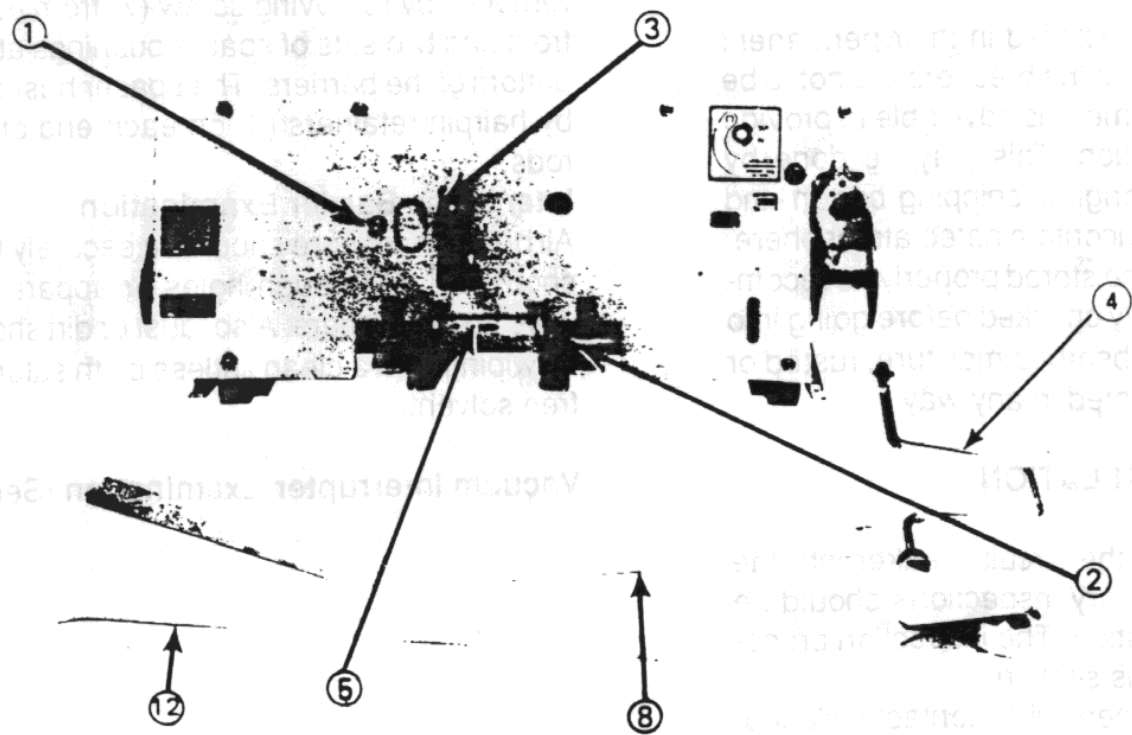

Fig. 3 — Front Circuit Breaker Panel & Accessories
Installing Circuit Breaker into Compartment (See Figs. 3&4)
Turn motor disconnect switch (1, Fig. 3) to "OFF" position.
For installing the circuit breaker into the lower compartment, the fifth wheel is used to position the breaker so that it is lined up with the switchgear. Engage the fifth wheel (12, Fig. 3) with hole (5, Fig. 3). The lift device is required to lift and position the breaker for installation into the upper compartment. Guide and push circuit breaker into compartment until stopped. Again engage racking crank and rotate clockwise until racking mechanism automatically stops at "DISCONNECT" position. (Breaker is now held captive in compartment.)
With the circuit breaker racked to "TEST" position, it should be checked for proper operation by operating all possible means of opening and closing, this includes control switches, relays, etc. Turn motor disconnect switch (1, Fig. 3) to "ON" position to charge the closing springs, and operate the breaker as required.
2. Fully closed breaker (See Fig 3). Charge the closing springs and turn the motor switch (1) off. Close the breaker. Engage manual charge handle (8) with charging lever (3). During the initial portion of the downward stroke of the handle check to see which direction the closing spring guides (2) move. If this spring guides start to move out then the breaker did not fully close originally. Excess contact pressure or friction can cause this condition and if it cannot be relieved then the factory should be consulted.
* If it is desired to make a dielectric test on the secondary control wiring, turn the spring charging motor disconnect switch (1, Fig. 3) to the "OFF" position. Apply test voltage (1100V-AC) for one minute to each of the secondary